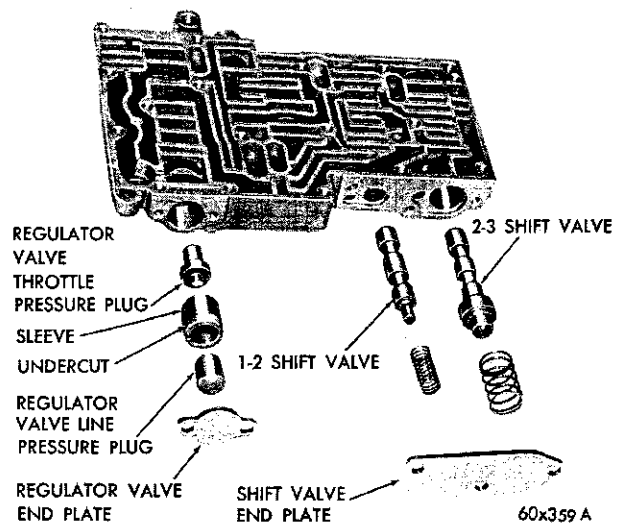

Fig. 59—Valve Body—Shift Valve Side (Disassembled View)
(16) Remove the shift valve end plate (Fig. 59). and slide out the two springs and valves.
(17) Remove the regulator valve end plate. Slide the regulator valve line pressure plug, sleeve, and the regulator valve throttle pressure plug out of the valve body.
(5) Install the 1-2 and 2-3 shift valves and springs (Fig. 59). Install the shift valve end plate and tighten the three retaining screws to 28 inch-pounds torque.
(6) Install the regulator valve throttle pressure plug, sleeve (under cut on sleeve toward end plate), and the line pressure plug (Fig. 59). Install the regulator valve end plate and tighten the two retaining screws to 28 inch-pounds torque.